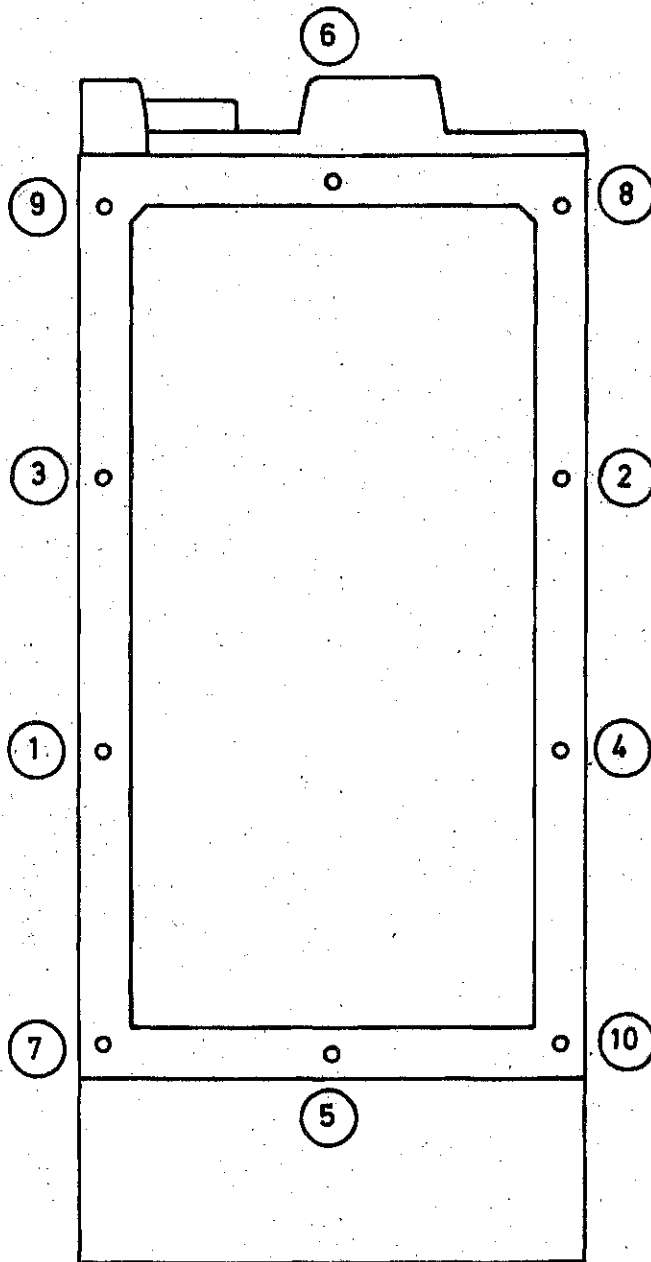

Fig.4 - Screw tightening sequence
60. Before re-fitting the lid, lightly smear the gasket with grease XG271. Tighten the ten securing screws to 0.35-0.39 Nm (50-55 oz in) in the sequence shown in Fig.4.